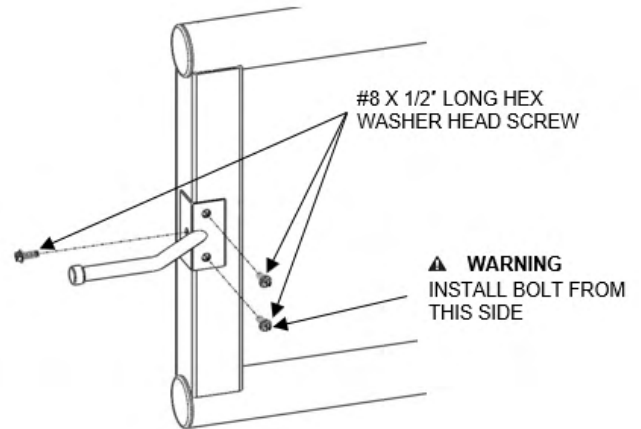

FIG. 7.18
7.8.7. Use 1/4" nut driver to secure catch with screws (FIG. 7.18).